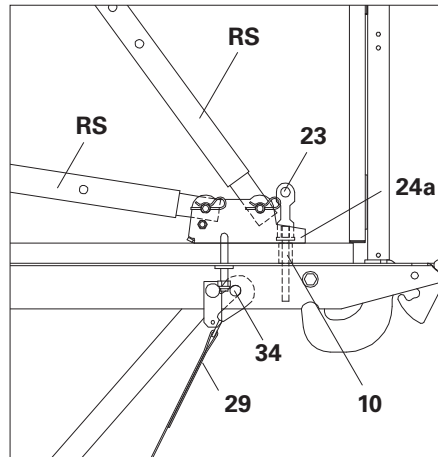

Fig. B2.04b
1. Bolt Base Plate for RSS 210-1400 (24a) in the rear Multi-Purpose Connector (10) with Push-Pull Prop Bolts FB (23).
2. Secure Push-Pull Prop RS and Kicker RS with bolts and cotter pins. (Fig. B2.04b)
1. Attach mounting hooks of the Tension Belt to an additional bolt Ø 16 x 150 with Cotter Pin 4/1 (34) in the hole behind the strut connection. (Fig. B2.04b + B2.04c)